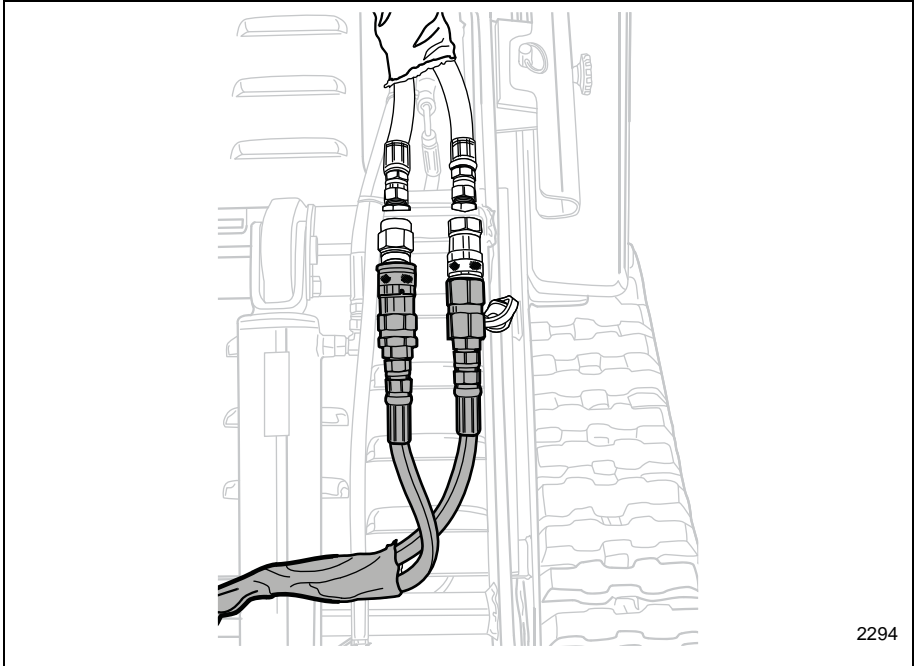

Figure 3-37 Attachment Hydraulic Hose Routing
11. Make sure that the hydraulic hoses are routed so that they will not be in the way or damaged during machine operation. **Figure 3-37** shows how the hoses might be routed to keep them out of the way during operation and prevent them from being damaged.